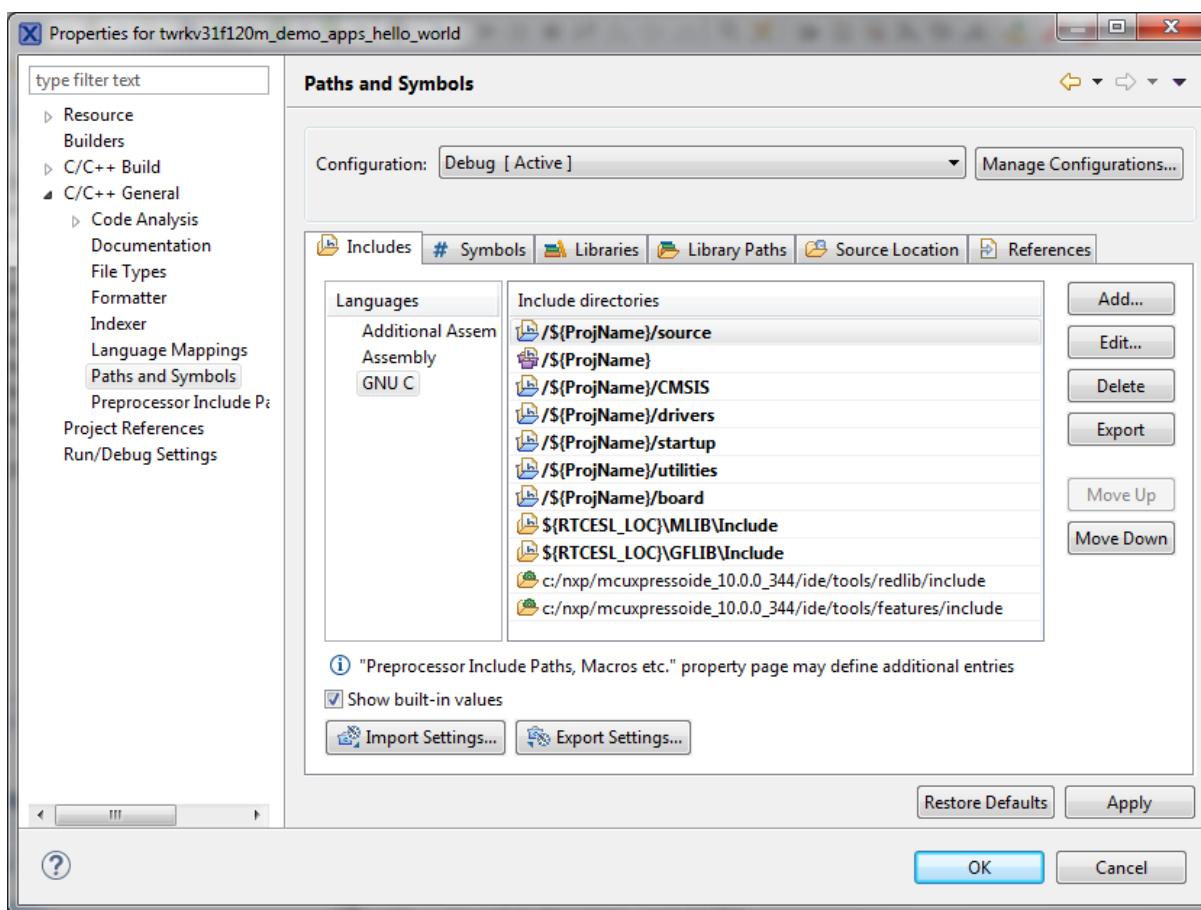

Figure 1-13. Compiler setting
15. In the right-hand dialog, select the Includes tab, and click GNU C in the Languages list. See Figure 1-13.
20. Click OK, and you will see the paths added in the list. See Figure 1-13. Click OK.